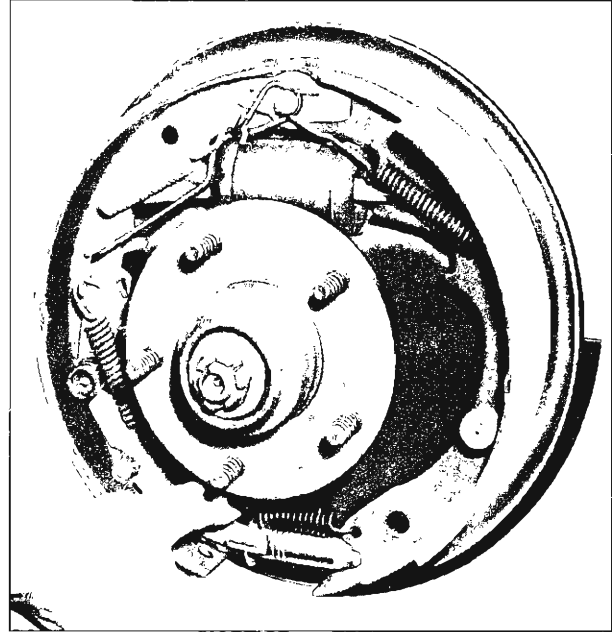
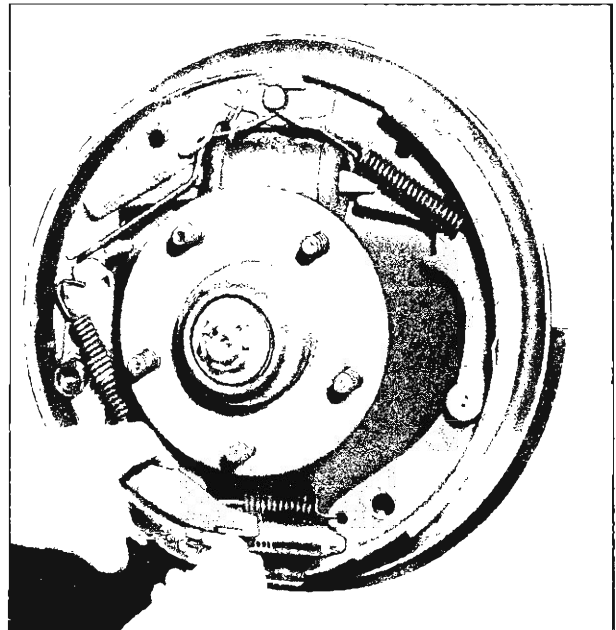

Fig. 8—Checking Operation of the Actuating Lever
Fig. 9—Inspecting for Proper Lubrication
4. Before installation, make sure that lever moves freely (fig. 8) and the adjusting screw is clean and lubricated properly (fig. 9).